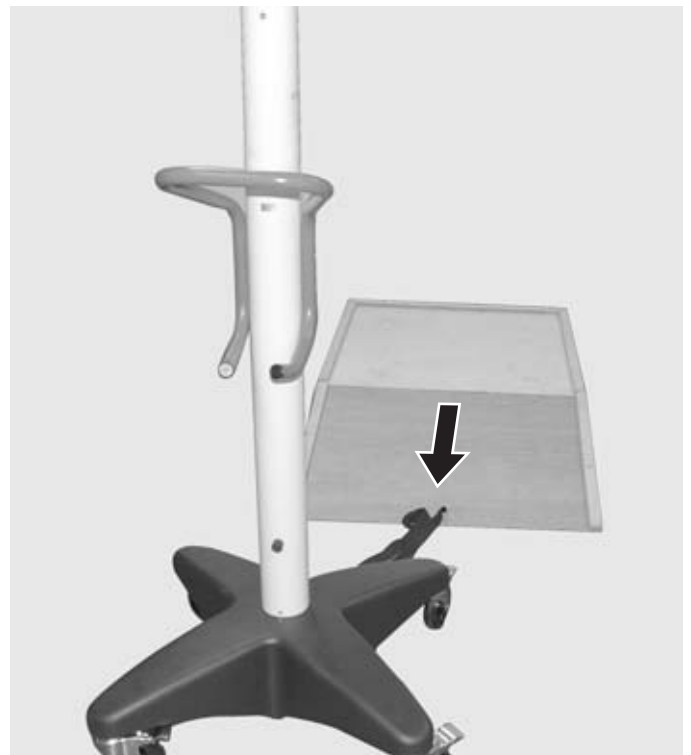

Fig. 3
- ⇒ Remove the base packaging (7).
- ⇒ Release the brakes (9) and travel the stand down carefully over the ramp (6) (Fig. 3).